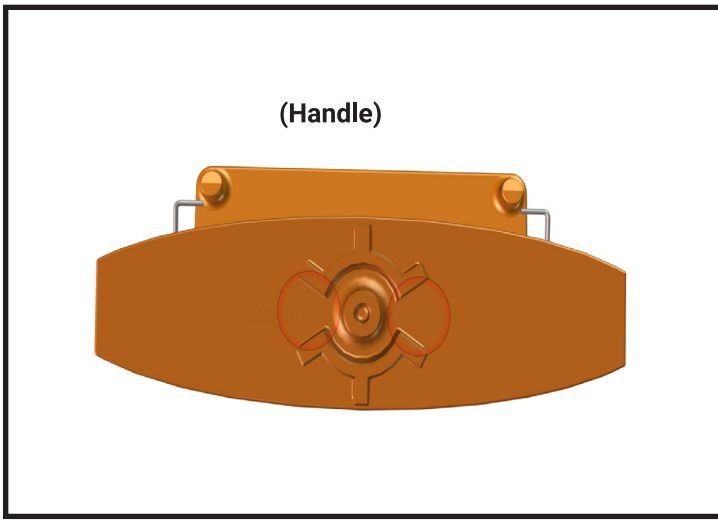

Figure 1
9. Line up the openings on the bottom of the (new) handle (as seen in Figure 1) with the bars on the ladder (as seen in Figure 2). When they are aligned, the handle should slide into place.